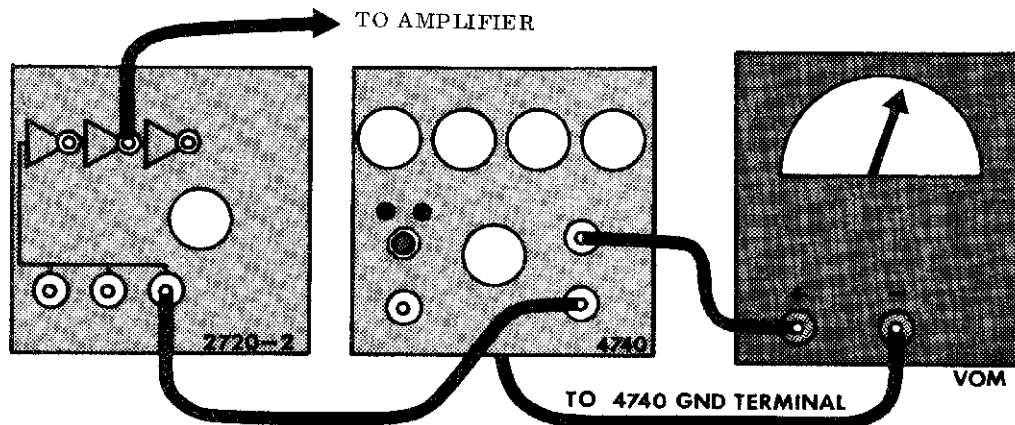

Figure 6
Initial equipment connections should be as shown in figure 6. Connect a +18v. supply to the ++ power connection on the rear edge of the 4740 circuit board and ground to the ($\frac{\ominus}{\oplus}$) connector. Patch the fixed output of the 4740 (lower right hand pin jack) to one of the control voltage inputs of the VCO. Connect the VOM between the variable output (upper right hand pin jack) and ground and set to a scale on which you can conveniently read 5v. Set the 4740 front panel controls as follows: ATTACK - full clockwise (CW), DECAY - full counter-clockwise (CCW), SUSTAIN - full CW, RELEASE - full CCW, LEVEL - full CW.